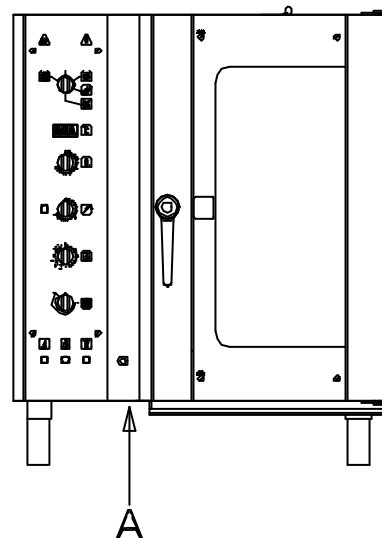

Figure 5e
- The magnet is housed in the lower left side of the door. To access to the working part of the door switch, unscrew the plate placed on the lower part of the front panel of the oven, near the door (fig. 5e) and the door switch can be unthreaded together with its support.